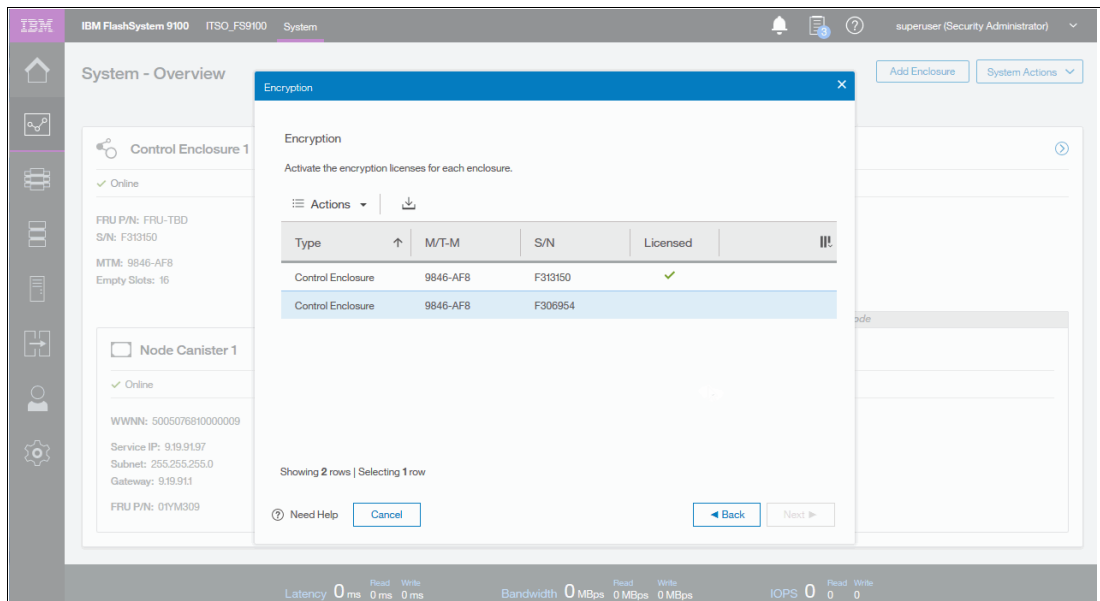

Figure 5-36 Adding a control enclosure to the system
2. The first dialog box displays the available control enclosure and its details, as shown in Figure 5-36. Note that the first control enclosure has encryption licensed and enabled.